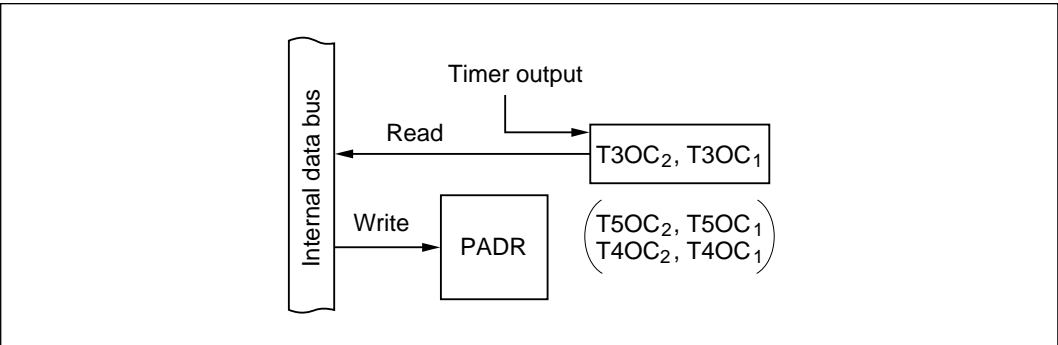

Figure 9-66 Output Compare Pins (Modes 1 to 7)
(6) Timer Output Pins (PA₆, PA₅, PA₃ to PA₀: Modes 1 to 7): Figure 9-66 shows a block diagram illustrating the timer output function. Table 9-49 indicates register read/write data. When PA₆, PA₅, and PA₃ to PA₀ are used for T3OC₂, T3OC₁, T5OC₂, T5OC₁, T4OC₂, and T4OC₁ output, values written in the port A data register (PADR) have no effect on the timer output. PADR can be read to monitor the timer output level (T3OC₂, T3OC₁, T5OC₂, T5OC₁, T4OC₂, T4OC₁).